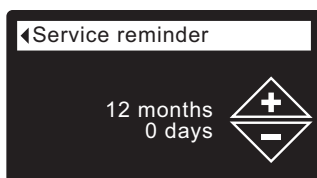

FIG. 81
7. Press the SELECT (O) button to display the Service reminder screen (See Figure 81).